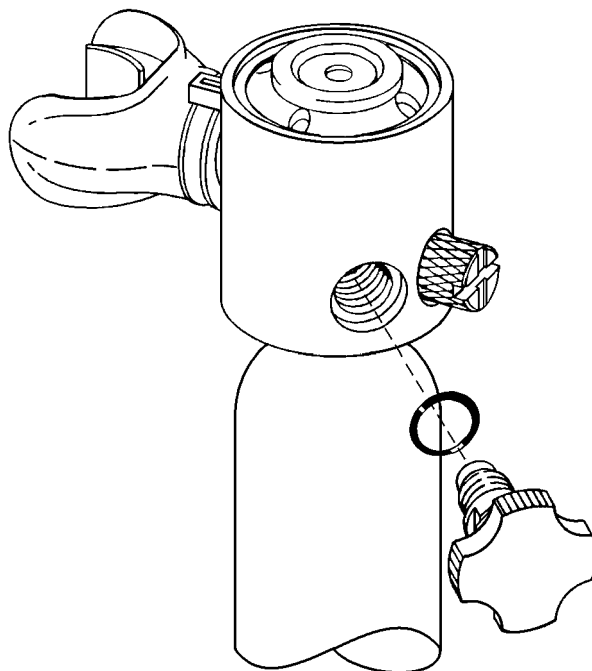

Figure 15-15. ON/OFF Valve Assembly
15-84. REPLACEMENT OF ON/OFF VALVE ASSEMBLY (Figure 15-15). Removal and installation of ON/OFF valve shall be performed at Intermediate Level as follows:
1. Install ON/OFF valve and O-ring in non-filtered open port of regulator (Figure 15-15), using 1/2-inch open-end torque wrench.